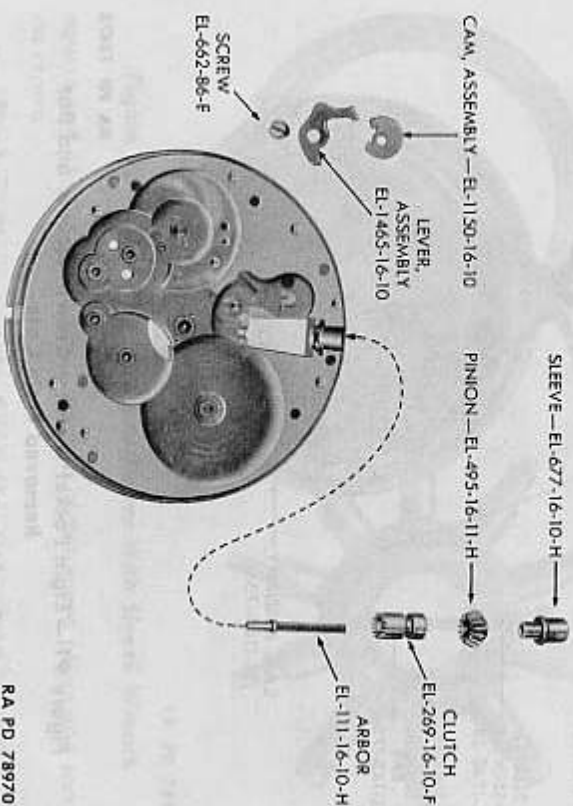

Figure 89 — Elgin Pocket Watch — Winding Arbor Assembly Removed
r. **Remove Winding Arbor and Setting Lever Assembly** (fig. 89). Grasp winding arbor sleeve with tweezers and lift it off plate. Strip assembly by removing winding pinion, winding and setting clutch, and winding arbor. Remove setting lever screw and setting lever. Remove setting lever cam. This completes disassembly of the movement, stripping it down to the pillar plate and leaving only the hole jewel assemblies and banking screws in place. **NOTE: If a 7-jewel movement, this procedure will leave the bushings of the train wheel pivots in their places.**